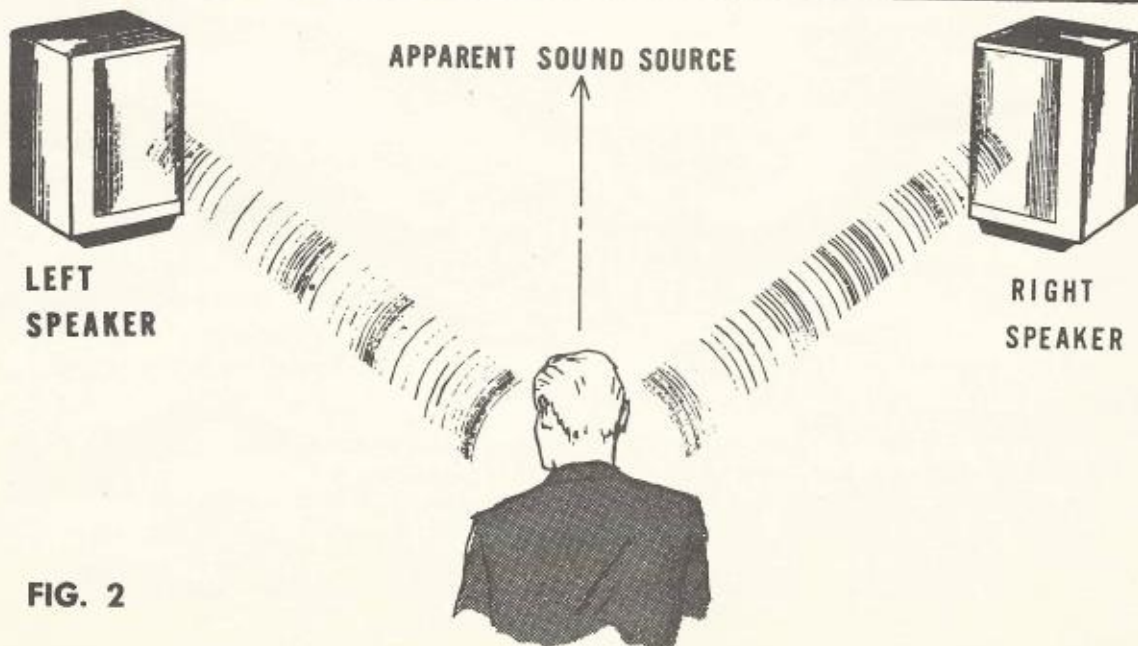

FIG. 2
Correct phasing and balancing is important in a stereophonic system. If the speakers are out of phase, they will work in opposition to each other and there will be a noticeable loss in the low frequencies (bass). If the speaker output levels are not equal there will be an unnatural distribution of the musical program, resulting in a loss of the stereo effect. To obtain correct balancing and phasing, use the following procedure. It is based on a simple listening principle which says that if two speakers send out identical sound, and you are equidistant from them, your ears will place the apparent source of sound half way between the two speakers, as indicated in Figure 2.
c) For this test, the speakers should be placed about 6 to 8 feet apart and facing inward slightly as shown in Figure 2. You may also require the help of another person to operate the amplifier controls while you position yourself mid-way between the speakers as shown.
When the speaker output are in phase there will be a slight increase in the bass response and, if the output levels are equal and "balanced," the sound source will appear to come from a point between the two speakers, as shown in Figure 2. It may be necessary to reverse the speaker leads repeatedly until correct or "in-phase" condition becomes apparent. Thereafter, the speaker leads should remain permanently in the positions determined by this test.